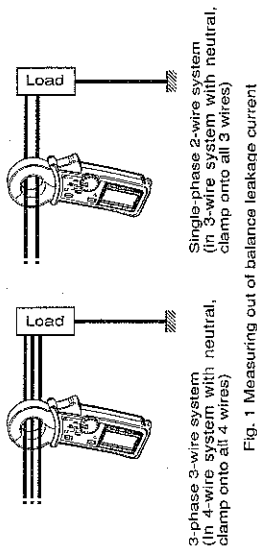

Fig. 1 Measuring out of balance leakage current
- (1) Set the Range Selector Switch to the desired position. Current to measure should be within the selected measuring range.
- (2) Measure out of balance leakage current (See Fig.1):